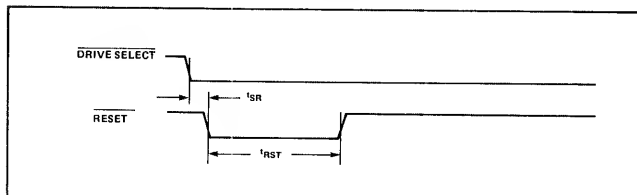

Figure 3-34. Reset Timing
3. **Reset Timing** Reset timing is shown in Figure 3-34. The AC characteristics are listed in Table 3-10.